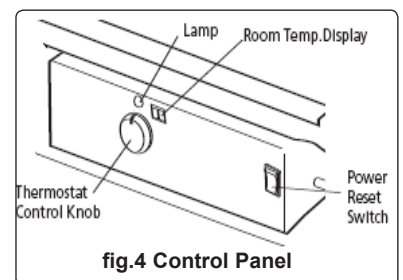

fig.4 Control Panel
5.1.4 Turn the thermostat control knob (fig.4) to the desired temperature setting. The heater has a range from 4°C to 43°C. Press the power switch to the "ON" position. The lamp and the room temperature display will illuminate and the heater will start.